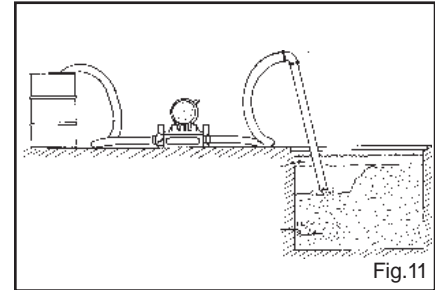

Fig.11
- **KEEP SOLIDS IN SUSPENSION** - When the pump is used to pump solid matter such as sludge at the bottom of a tank or to dredge out a section of a lagoon make sure the solids have enough liquid mixed in to allow it to flow. Raking or stirring while the pump is pumping will keep solids in suspension. Rule of thumb in pumping viscous liquids or combinations of liquids with solids, "If It Will Not Flow Through A Line Under Gravity, The Pump Will Most Likely Not Pump It." See Fig.11